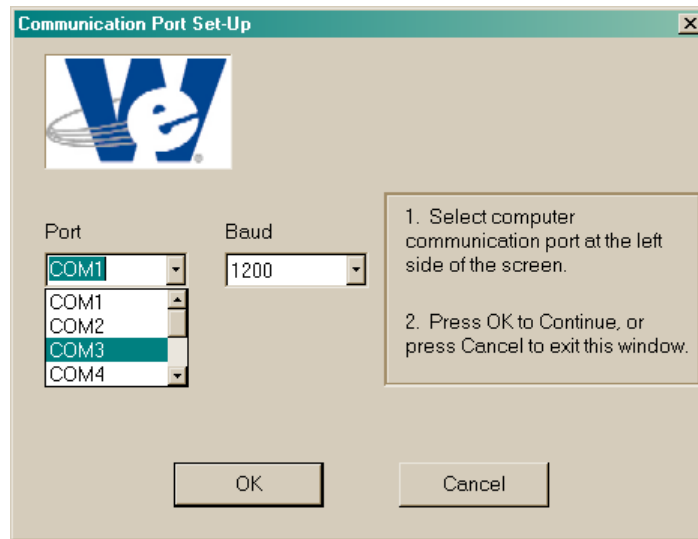

Figure 38
**Port Set-Up:** **Port Set-Up** opens the **Communication Port Set-Up Window** (Figure 38) that allows the user to choose what serial port assignment they wish to communicate along with the Baud rate at which to communicate. Instructions given on the screen tell the user to first select the communication port the computer is communicating with and then to select **OK** to accept the new setting and continue or **Cancel** to ignore the selected settings and continue using the FREEDOM Tool. Two drop down boxes are provided to the user in this window to select the desired Port and communication rate(Baud). To change a selection in one of these, move the mouse pointer over top of the down arrow beside the desired box and click one time. This procedure will drop down a list in which the user can then select their desired choice. When the desired choice is made, by clicking the mouse button one time, the selection will be shown in the text field of the drop-down list. It is important to note that entering this window will cause the FREEDOM Tool to close its connection with the elevator system. When this window is closed the FREEDOM Tool will re-establish communications with the elevator controller, but the user will be requested to re-enter the password.